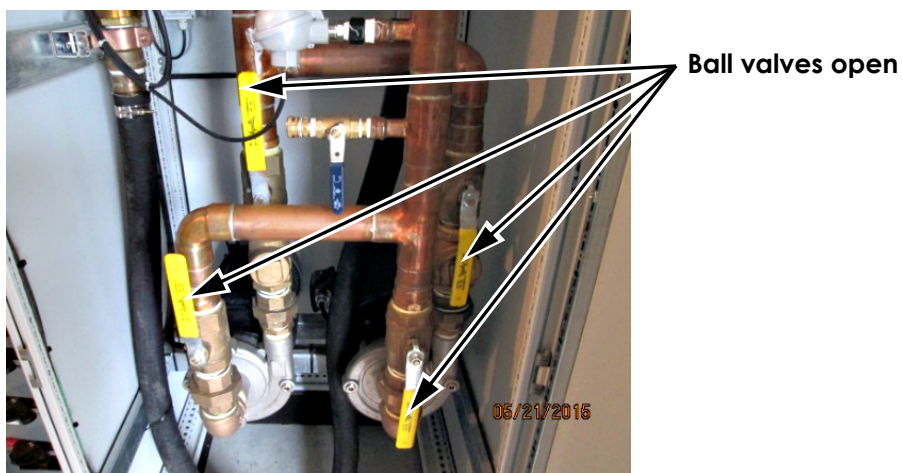

Figure 5: Suction and supply ball valves open
10. Ensure that all ball valves on the suction and supply side of the pump are in the open position. See Figure 5.